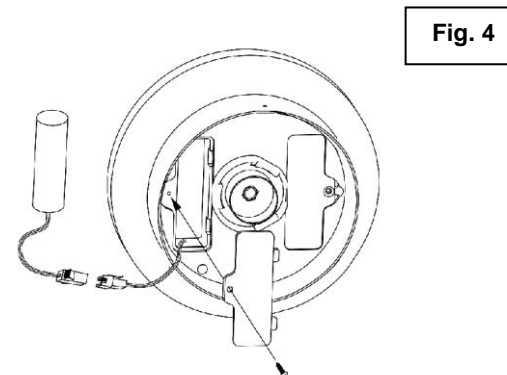

Fig. 4
2. Unscrew the battery compartment (Fig. 4)